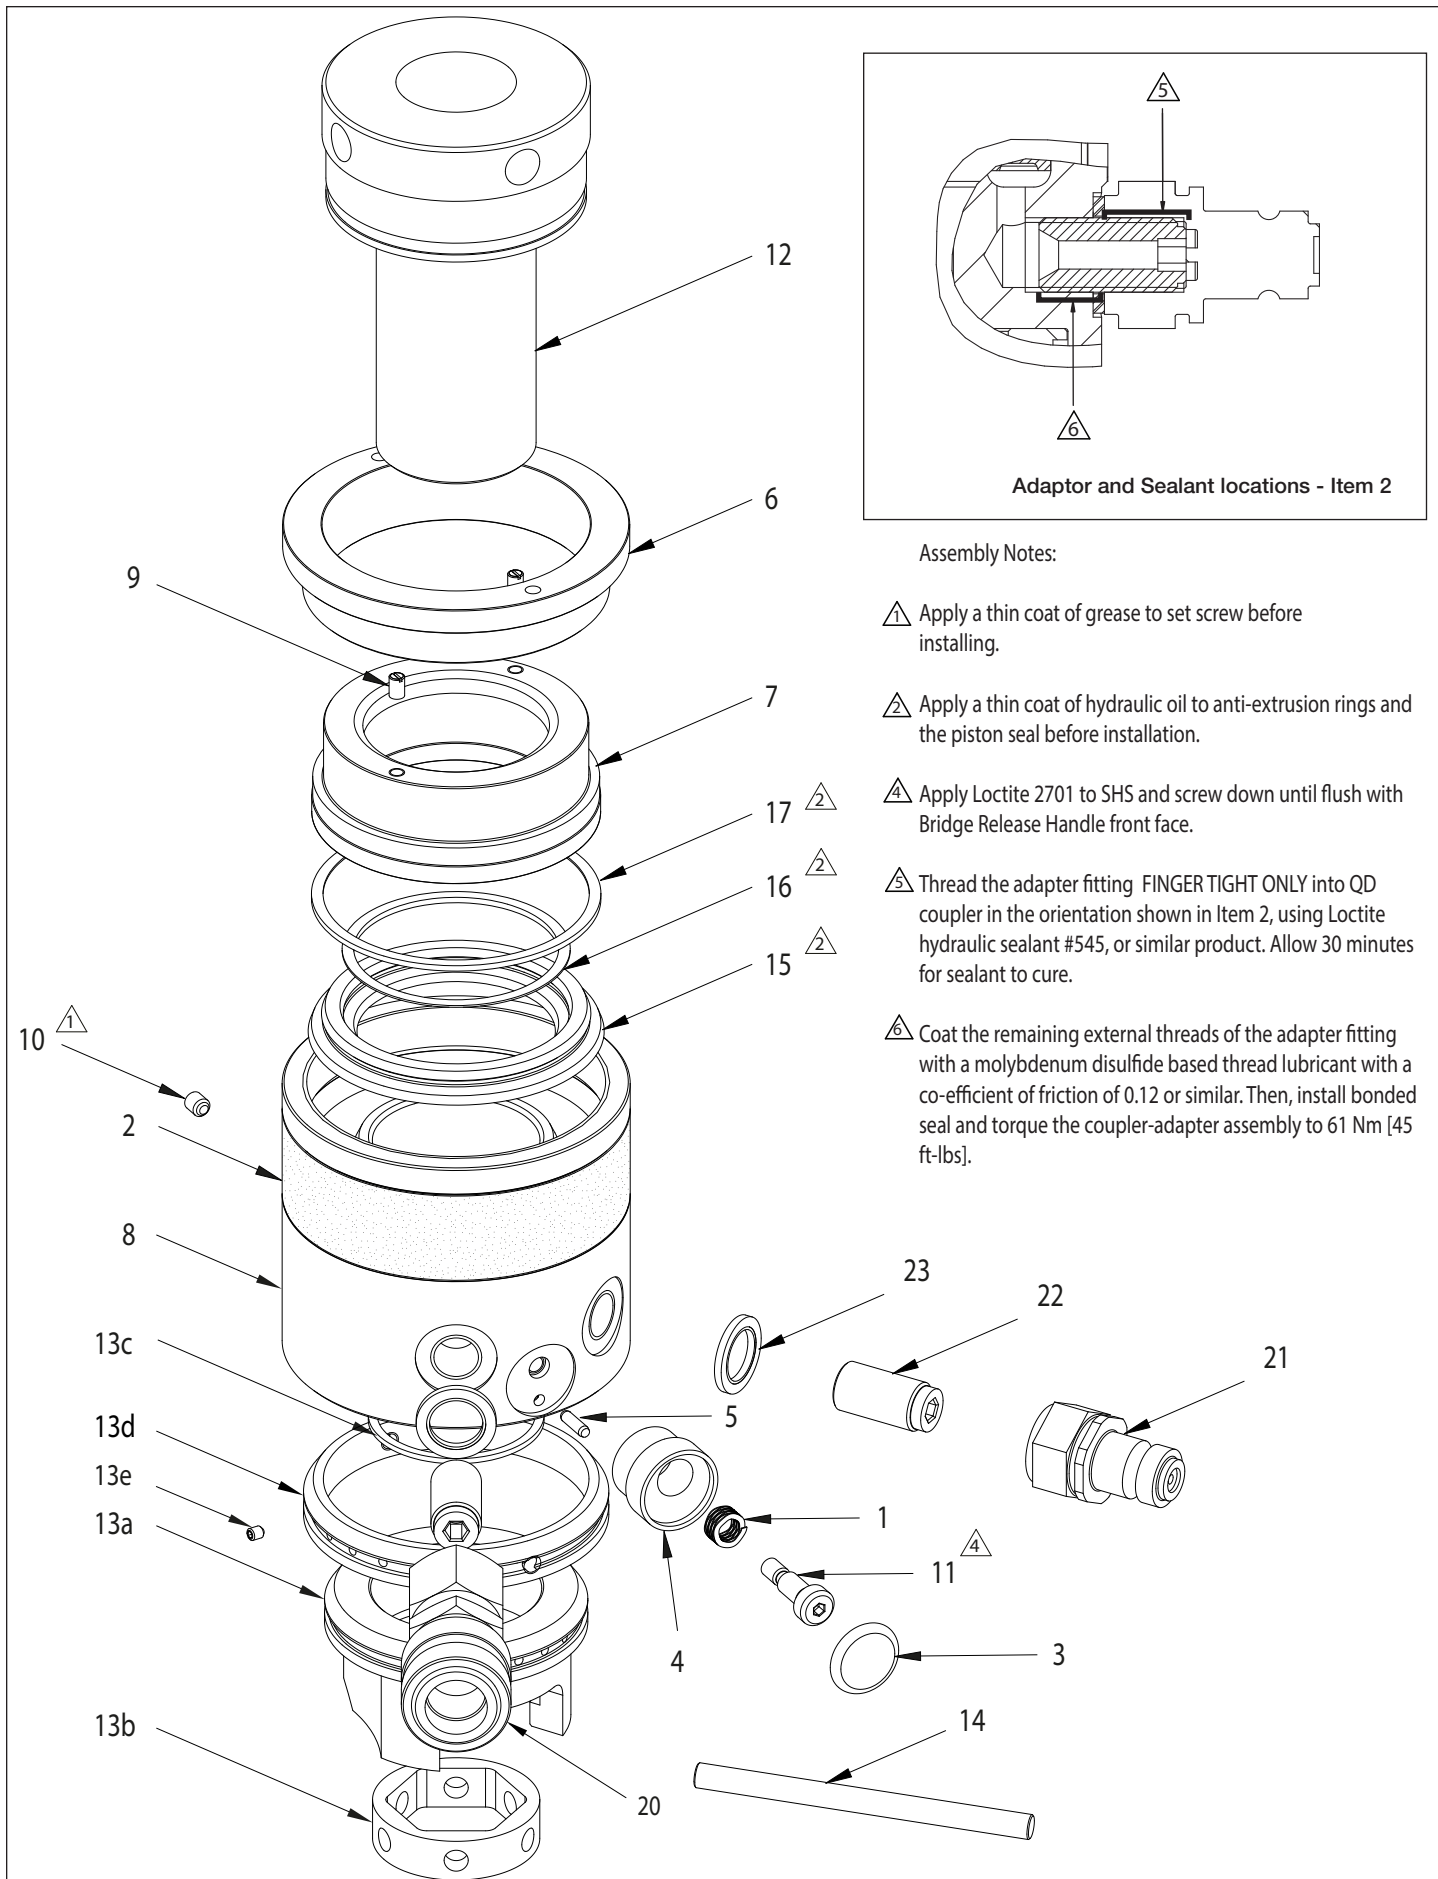

Figure 2, Exploded View, HydraMax® Series Hydraulic Tensioner (Models HM04, HM05)
**Repair Parts List For Figure 2 – HydraMax® Series Hydraulic Tensioner, Models